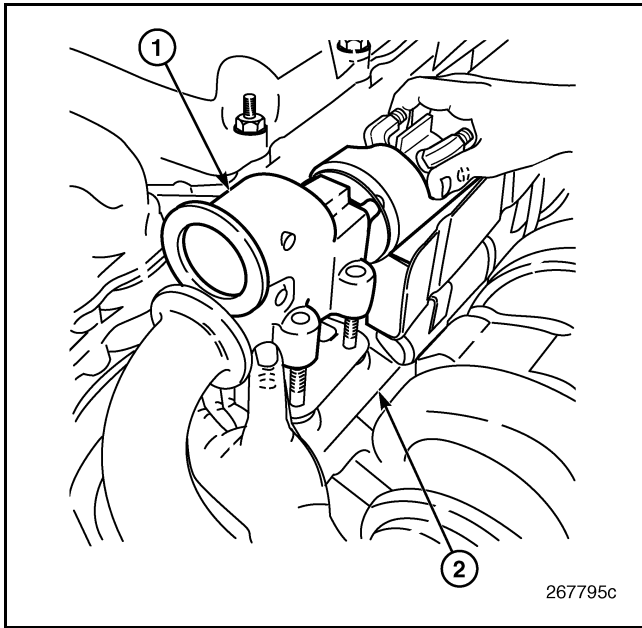

Figure 414 — EGR Valve Installation
- Place the valve assembly in position on the exhaust manifold studs (Figure 414). Loosely install the retaining nuts. **DO NOT** tighten them at this time.